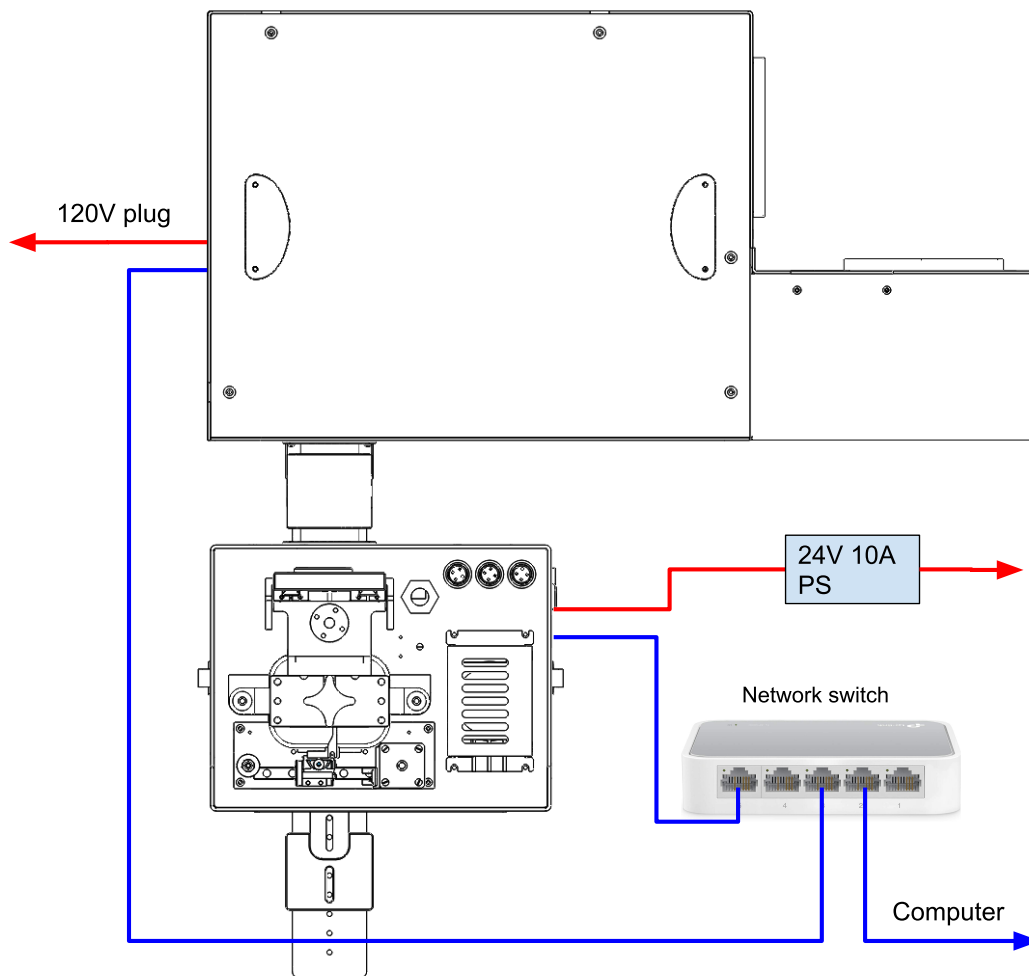

Fig. 7. Cable connections
- Connect both network and power cables as shown in Fig. 7.